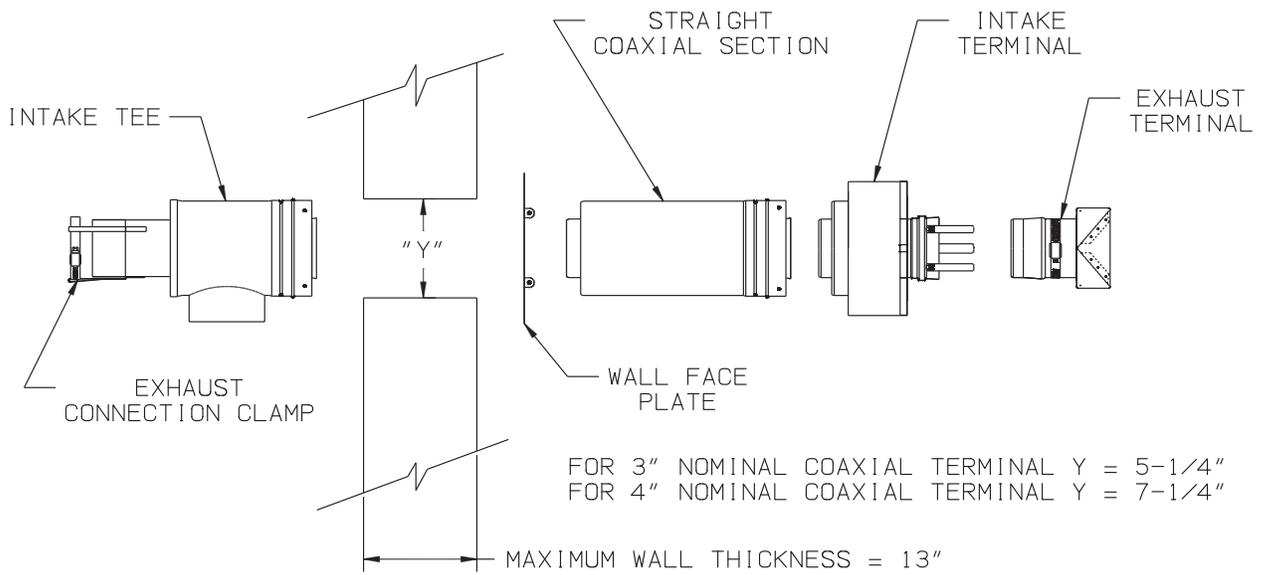

FIGURE 6.14a: CROWN COAXIAL TERMINAL EXPLODED VIEW
- 3) Optional Coaxial Terminal Installation – If the optional coaxial terminal is used, it should be installed in the wall before vent assembly is started. Install the terminal in accordance with the following procedure (Figures 6.14a & 6.14b):